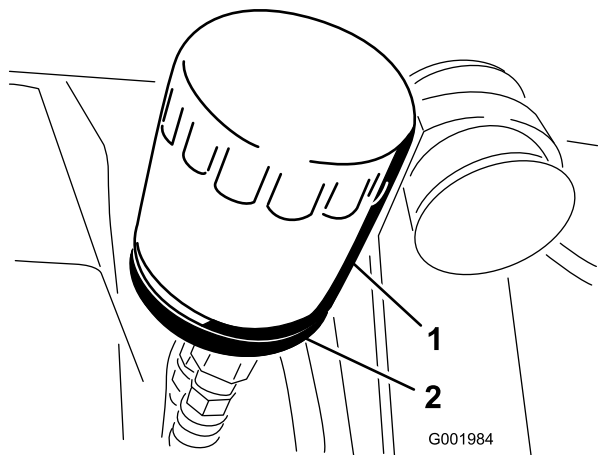

Figure 50
2. Remove the oil filter (Figure 50).
5. Install the replacement oil filter to the filter adapter. Turn the oil filter clockwise until the rubber gasket contacts the filter adapter, then tighten the filter an additional 1/2 turn (Figure 50).